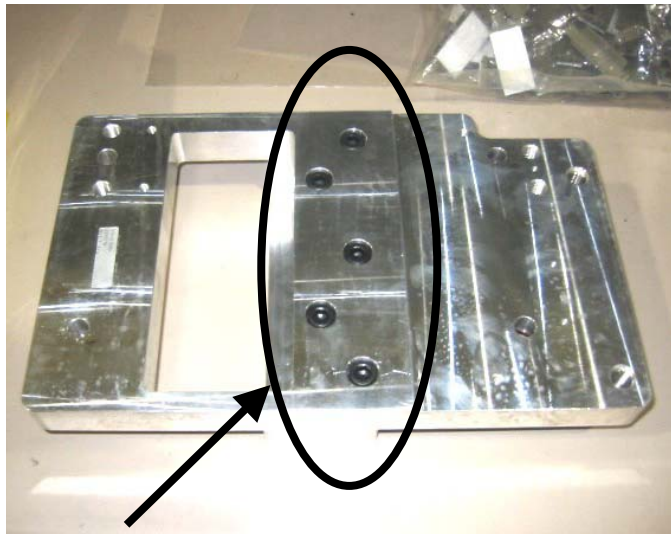

Figure 1: Five Bolts on Aux Box Mounting Bracket to Torque
This instruction details the process to confirm the torque on five (5) M10 bolts that are part of the CT and PET/CT HP60 Aux Box mounting bracket, p/n 2370279. Refer to Figure 1: Five Bolts on Aux Box Mounting Bracket to Torque, for an illustration of the five bolts whose torque must be checked.